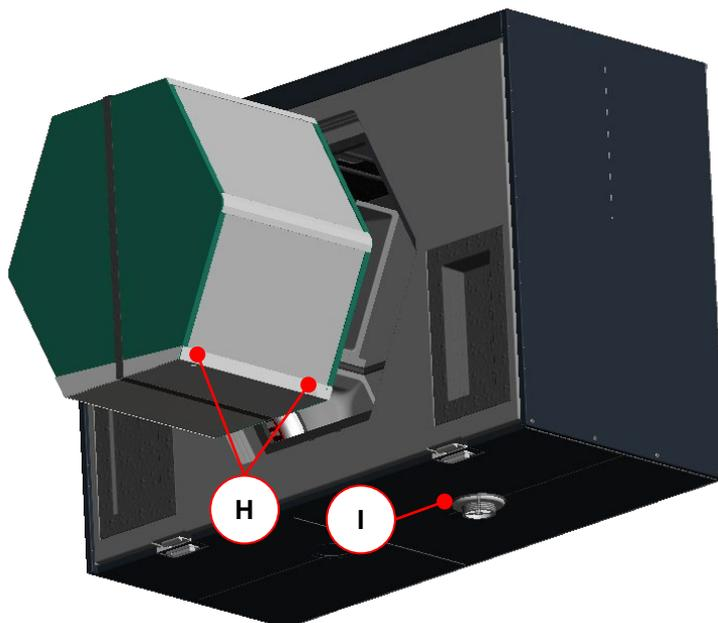

Fig. 42: Position of condensate tray when sliding in the heat exchanger
2. Insert the relevant heat exchanger type while following the instructions for Fig. 42 and then perform work steps 9 to 10 as described in 5.7.1.